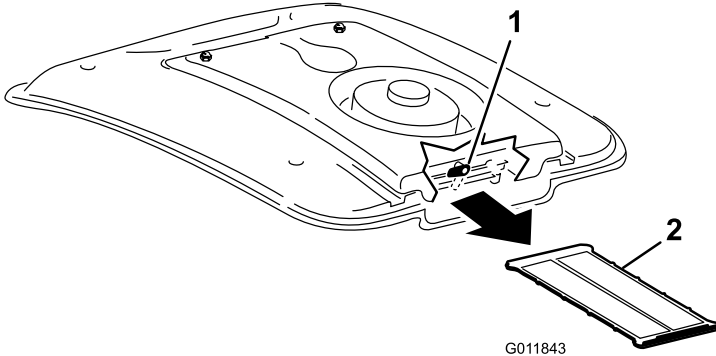

Figure 57
2. On the rear of the fan mount, rotate the latch to the side (Figure 57).
3. Slide the A/C screen out from under the air conditioning coil (Figure 57).
4. Clean the screen thoroughly with compressed air (Figure 57).